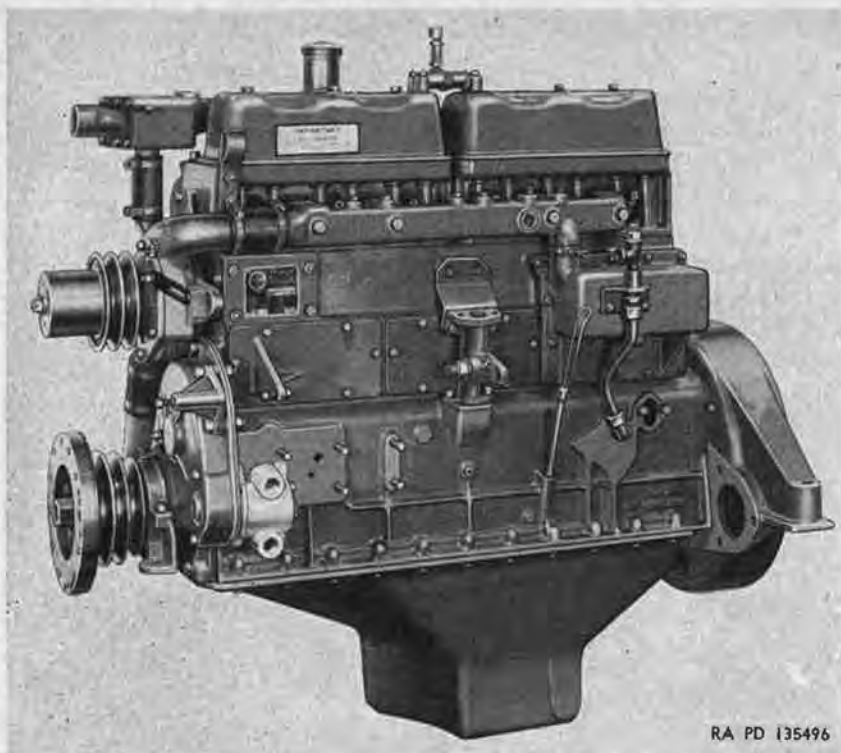

Figure 115. Left front view of engine—less accessories.
- (1) *Engine.* The engine (figs. 115 and 116) is a six-cylinder, four-cycle, water-cooled, valve-in-head type, which is mounted at the front of the vehicle between the frame side rails. For detailed description of engine accessories which are components of the fuel, exhaust, cooling, starting, ignition, and compressed air systems, refer to the appropriate sections of this chapter.